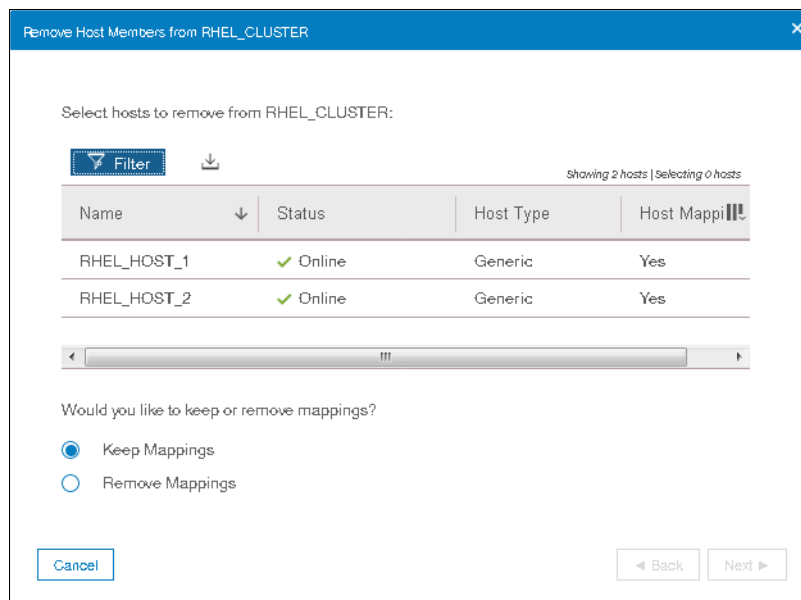

Figure 5-103 Host Cluster member selection
3. A window will be shown with list of hosts that are members of the host cluster as shown in Figure 5-103.